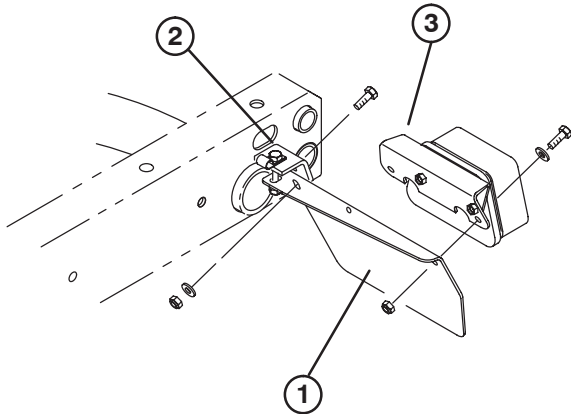

Figure 1
1. Loosen the locknuts and capscrews securing tail light plates to right and left frame brackets (Fig. 1).
3. Secure rear of each tail light plate to rear of frame brackets with a 5/16–18 x 1" lg. capscrew, .281" I.D. flatwasher and nut, as shown in figure 1.